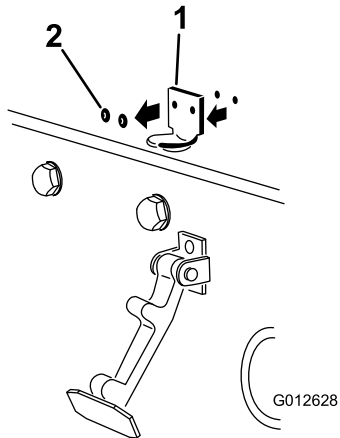

Figure 3
- Remove the 2 rivets securing the hood-latch bracket to the hood (Figure 3). Remove the hood-latch bracket from the hood.